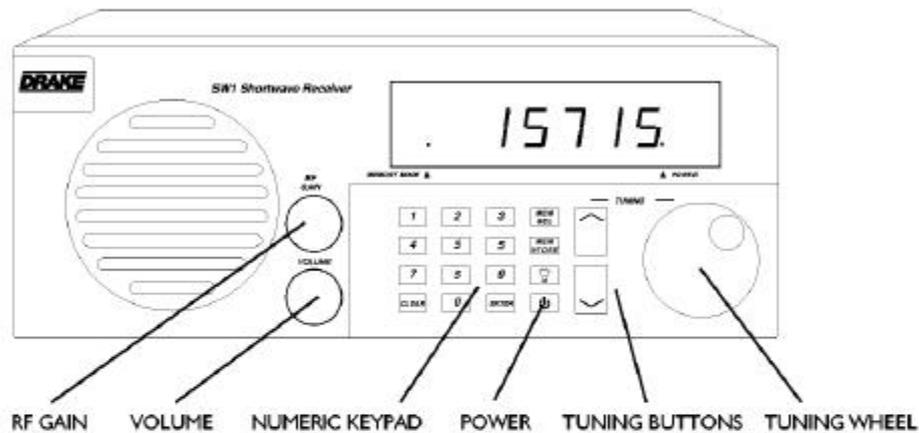

FIGURE 4
3. Please refer to Figure 4. Press the  button to turn on the SW1. The display will show the receive frequency. Set the RF GAIN control fully clockwise. Set the VOLUME control for a comfortable volume level.
4. Please refer to Figure 4. Tune to the desired frequency by using one of several methods covered below.